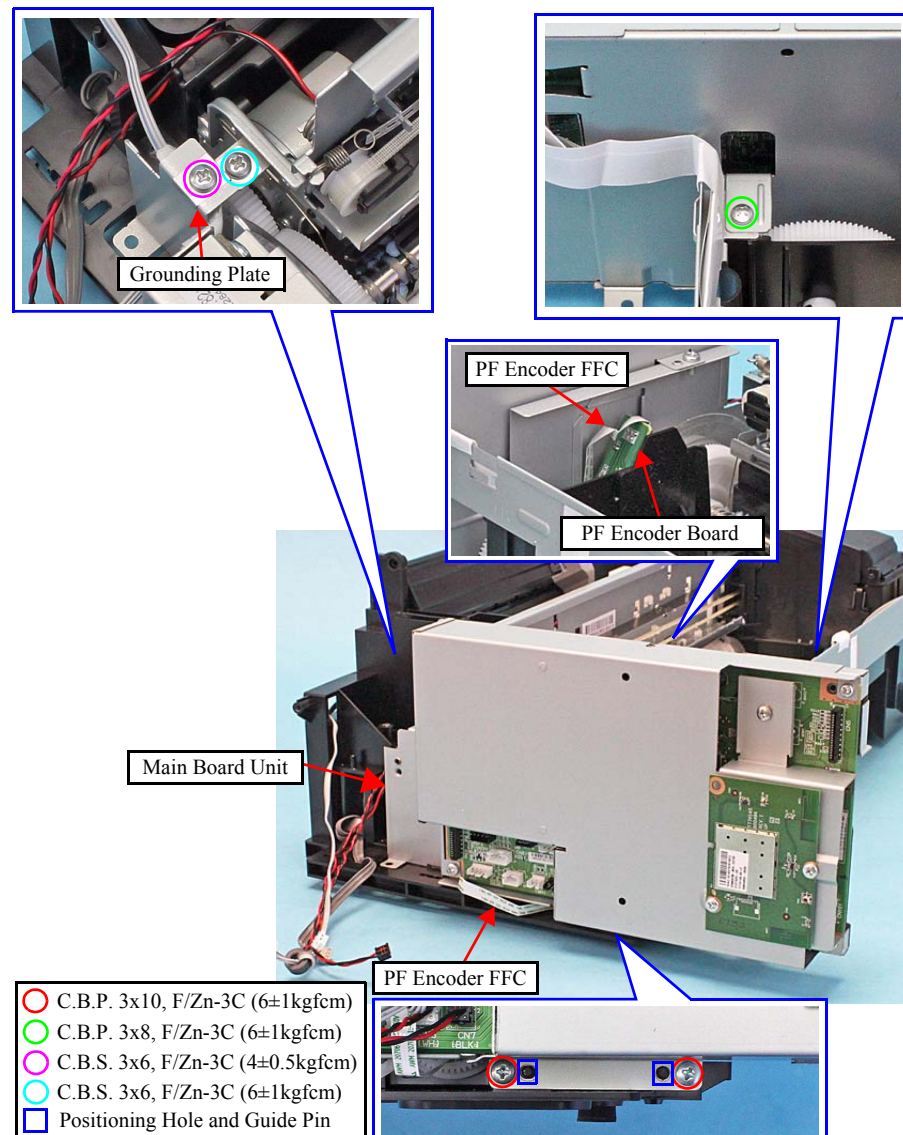

Figure 7-39. Removing the Main Board Unit
- When installing the Main Board Unit, align the guide pins (x2) of the Base Frame with their positioning holes (x2) of the Main Board Unit as shown in Figure 7-39.